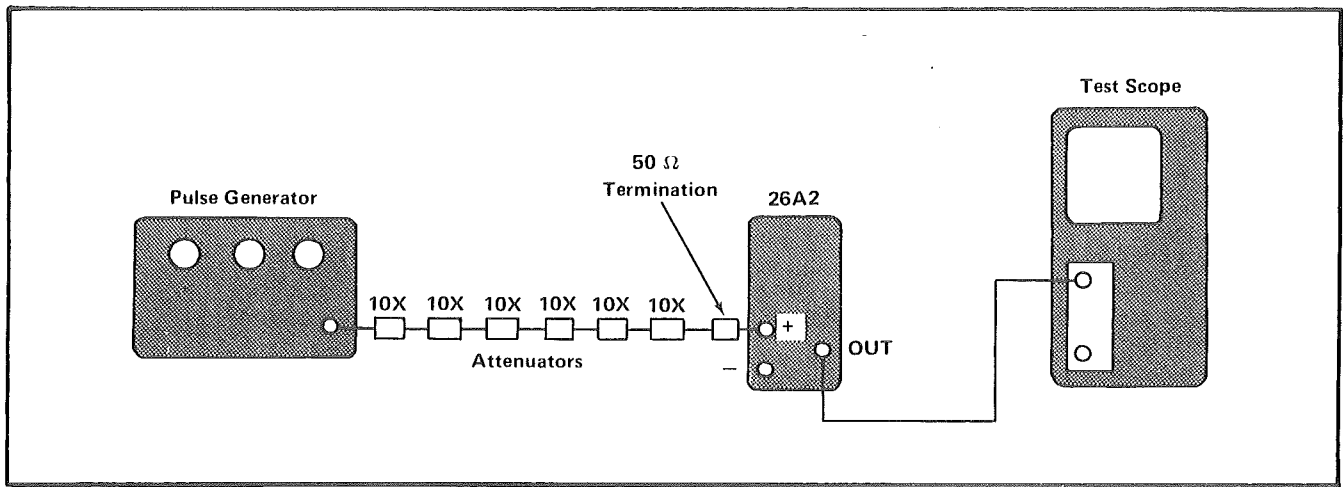

Fig. 5-4. Equipment setup for step 5.
- a. Set up the equipment as illustrated in Fig. 5-4.